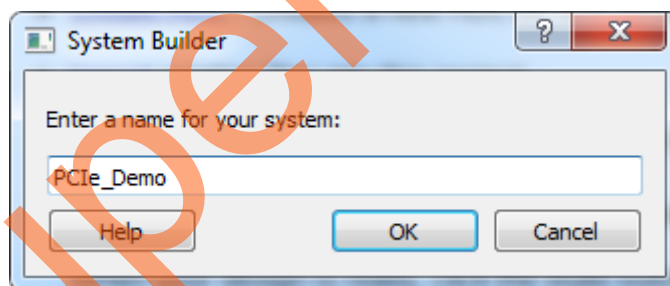

Figure 6 • Create New System Builder Dialog Box
- Selecting the **Use System Builder** displays the “Enter a name for your system” dialog box, as shown in Figure 6.